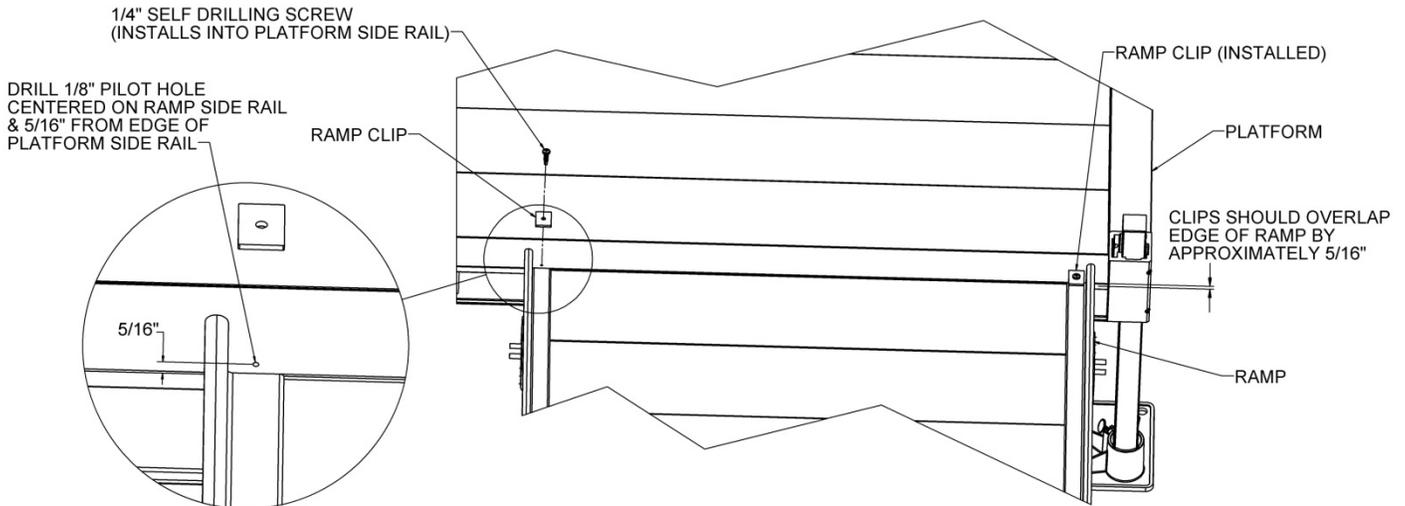

FIG. 5.1
- 5.1.3. Position clip so that the long side is as close as possible and parallel to the ramp side rail and with the clip edge extending onto the ramp side rail by approximately 5/16" (FIG 5.1).